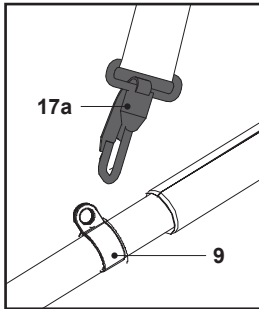

Fig. 7
- Adjust the length of the harness (17) so that the securing clip (17a) is approximately 15 cm below your waist.
- Attach the securing clip (17a) to the loop (9) (Fig. 7).